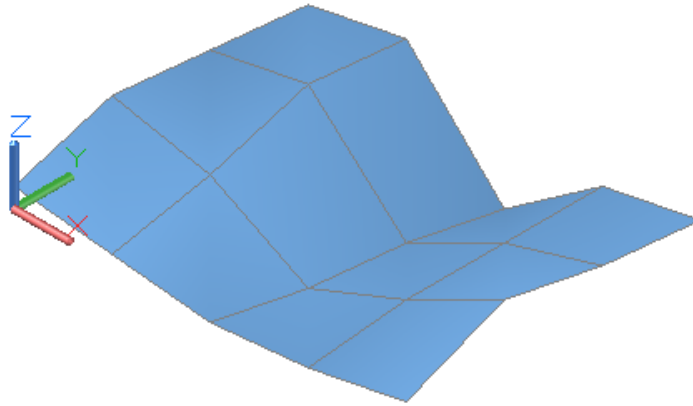

Figure Step 11
Step 11 Set the current visual style to Realistic and the current view to SE Isometric. (Figure Step 11)